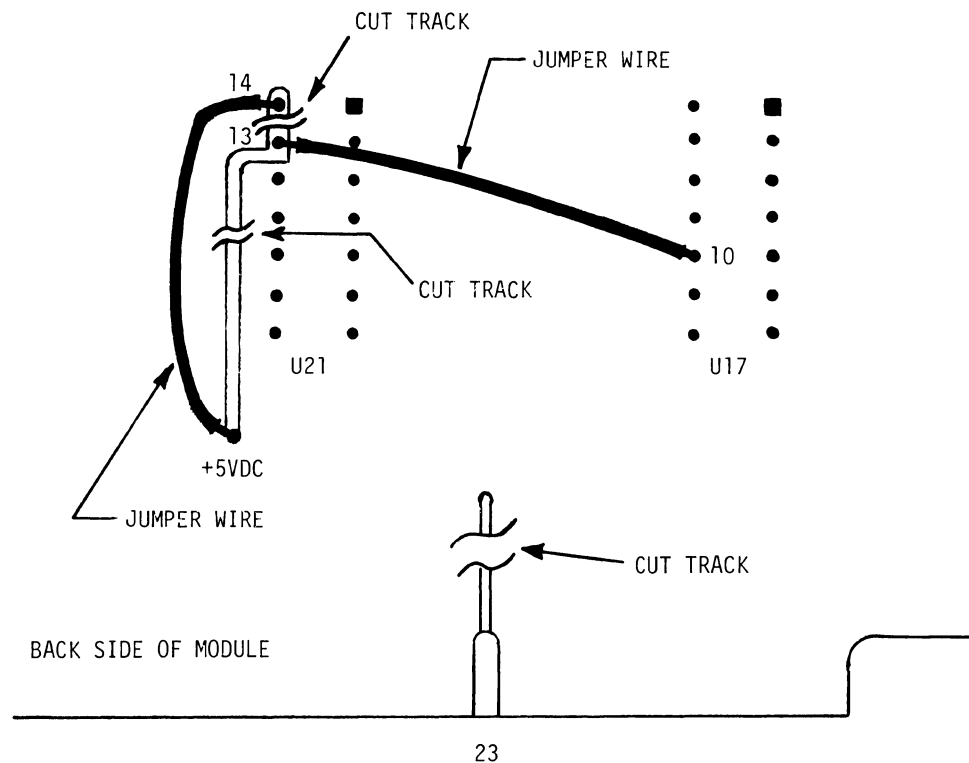

FIGURE 4. USE Modification for 16K Dynamic RAM Module (MEX6816-1)
The early 16K Dynamic RAM Module (MEX6816-1) requires modification before use in an M6809 EXORciser. These modules generate an ACT (Activate) signal on pin 23. This signal has been redefined in the M6809 EXORciser as BS (Bus Status). It is necessary to disable one of these signals in order to avoid damage to either module. The recommended modification is to disable the ACT signal on the 16K Dynamic RAM Module because it is not used on any other M6800 or M6809 module. Refer to Figure 4. To disable the ACT signal, cut the ACT signal track (pin 23) above the finger on the module edge connector, as illustrated.
- a. Remove +5VDC connection from U21 pin 13 (refer to Figure 4). This is accomplished by cutting the tracks between pins 13 and 14 and between +5VDC and pin 13, as illustrated.